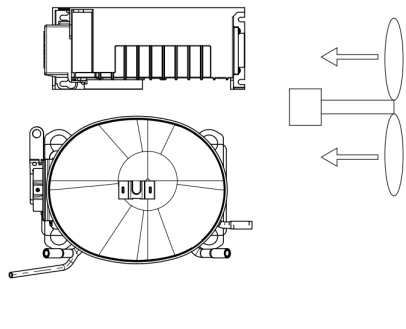

Figure 3.12: Option 1
- Install the electronic Inverter in the vertical position. Refer to Figures 3.12 through 3.14 for recommended assembly positions.
Acceptable positions of fan + compressor + inverter are shown in the Figures 3.12 to 3.14.